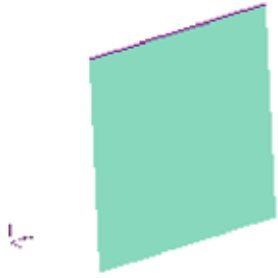

Figure 42: Region created by extrusion
- Notice that the line was extruded in the negative Z axis of the global coordinate system, as shown in Figure 42.